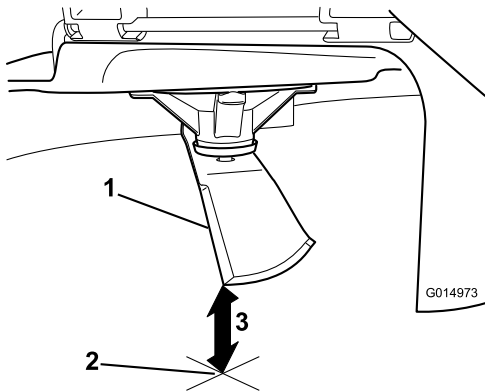

Figure 93
5. Measure from the tip of the blade to the flat surface (Figure 93).